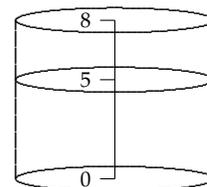

Figure 8.2: The pool is filled to a depth of 5 feet and the water is to be pumped out over the top edge at height 8 feet.
**EXAMPLE 8.2.2.** Here's a simple first example. An above-ground backyard swimming pool has the shape of a circular cylinder with a radius of 10 ft and a depth of 8 ft. Assume the depth of the water in the pool is 5 ft. Find the work done in emptying the pool by pumping the water over the top edge of the pool. Note: The density of water is 62.5 lbs/ft3. See Figure 8.2.